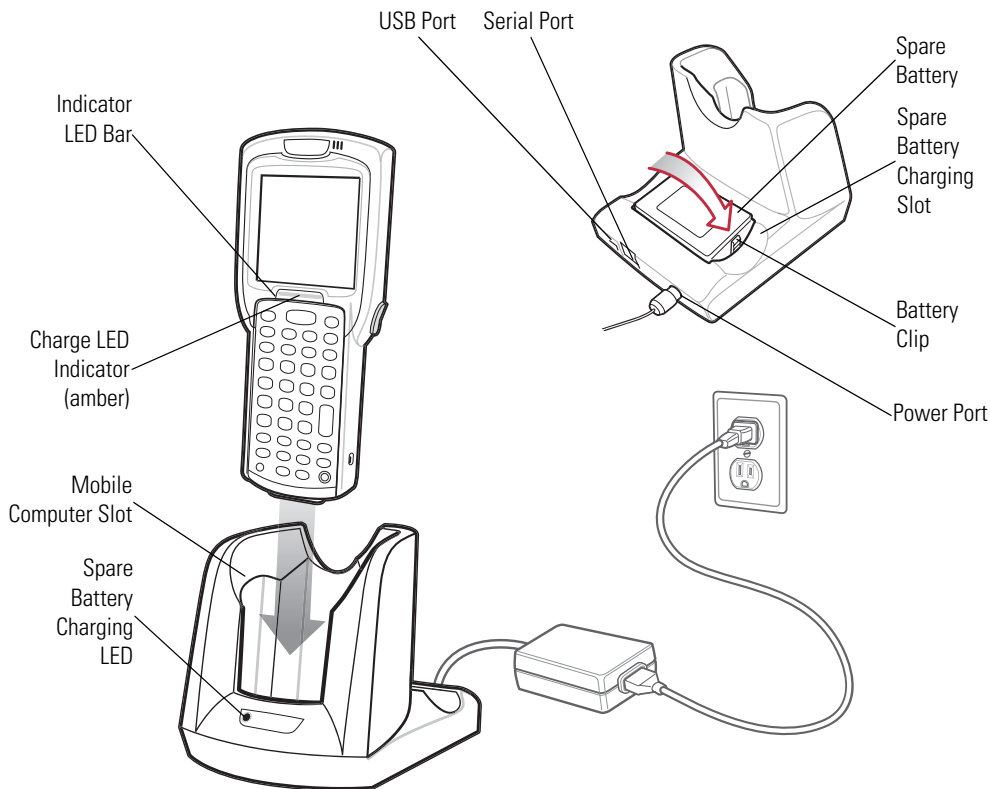

Figure 3-1. Single Slot Serial/USB Cradle
3. The cradle's Spare Battery Charging LED (see Figure 3-1 on page 3-4) indicates the spare battery charging status. The Standard Battery charges in less than four hours and the Extended Life Battery charges in less than six hours. See Table 3-1 for charging status indications.